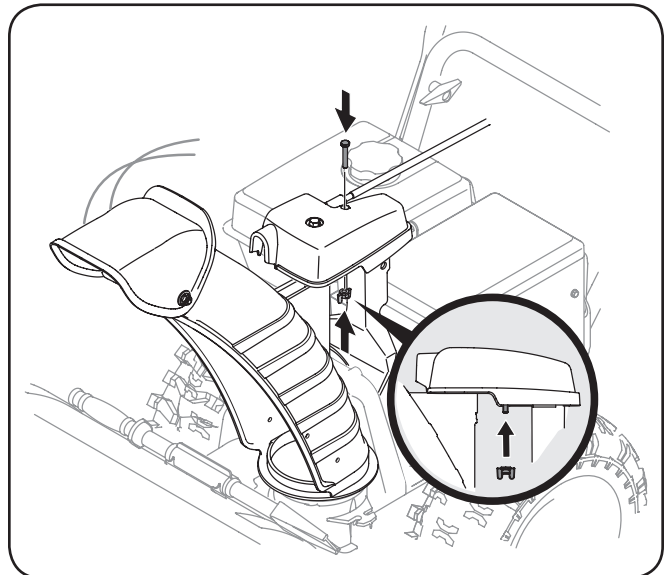

Figure 3-7
4. Finish securing chute control assembly by installing hex bolt and wing nut. See Figure 3-7.